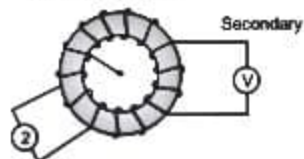

Fig. 5.1
- In Fig. 5.1 the voltage induced in the secondary coil can be used to determine the magnetic properties of the material inside the toroid.